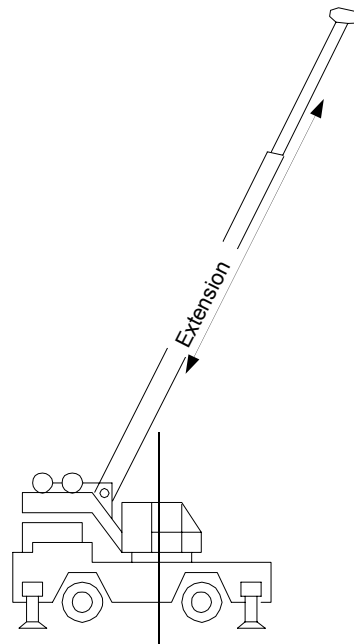

Figure 5
6. Extend the boom (Fig. 5) fully.